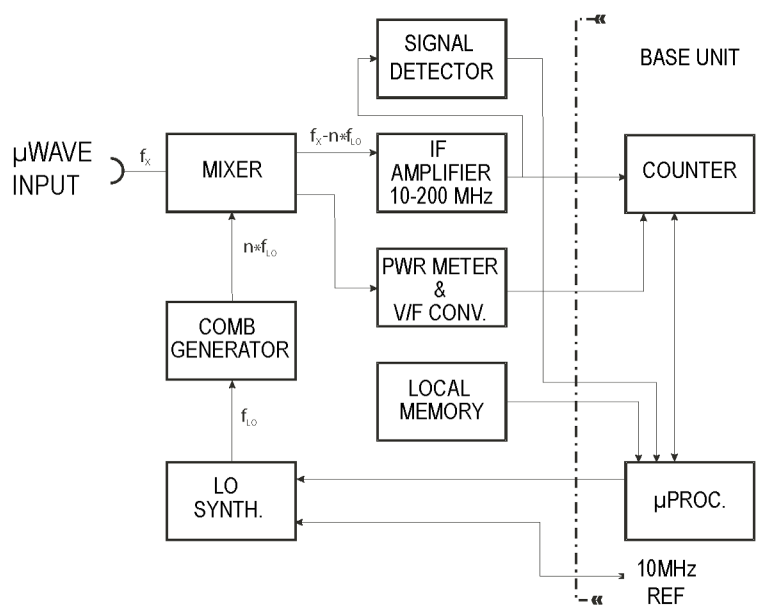

Figure 5: Microwave acquisition in the MCA3000 Series.
The MCA3027 and MCA3040 let you measure frequencies up to 27 GHz and 40 GHz, respectively, using down converters. Down converters mix the unknown input signal with a known local oscillator (LO) frequency until there is a signal present within the passband of the IF amplifier (in this case 10 – 200 MHz). (See Figure 5.)